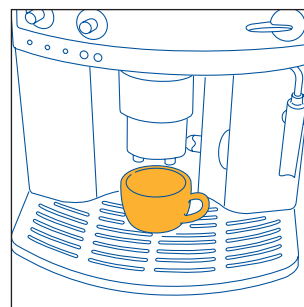
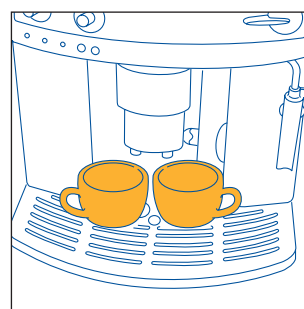
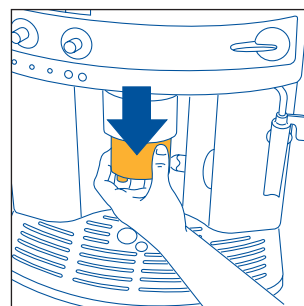

Fig.9
Fig.10
Fig.11
- 4) Place one cup under the spouts to make 1 coffee (Fig. 9) or 2 cups for 2 coffees (Fig. 10). For a creamy coffee, lower the spouts to bring them as close to the cups as possible (Fig. 11).